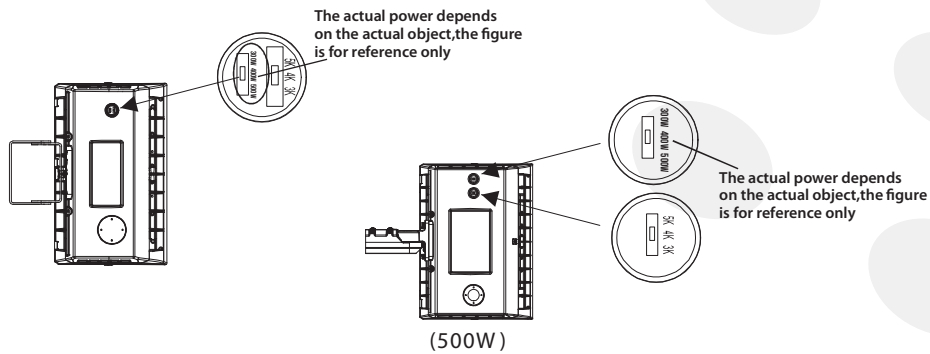

Figure 14
Step 2: After adjusting the required control function, tighten the metal plug clockwise. (Figure 14)